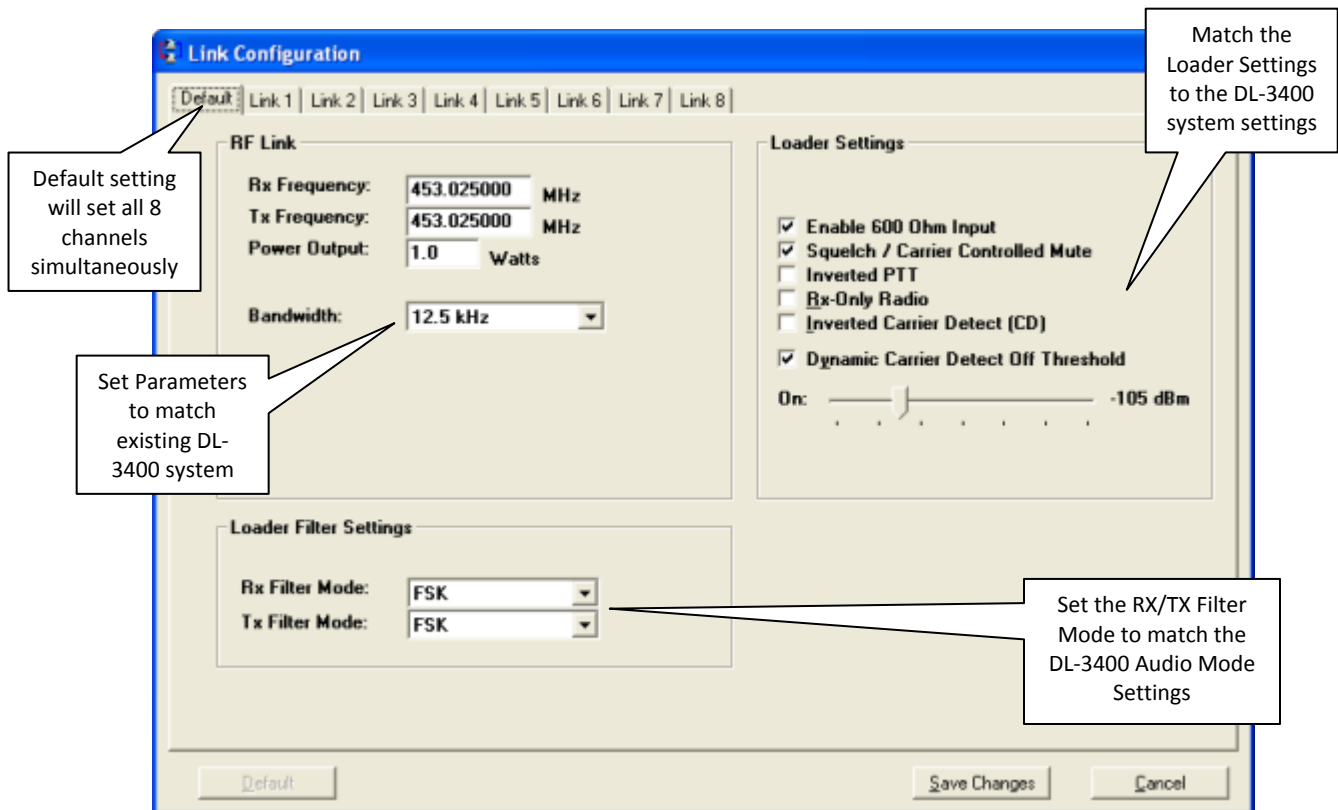

Fig. 6
Click the “Link Configuration” button to advance to the modem settings. This is the screen that sets the RF channel frequencies and Loader settings. See Fig. 6.
Unlike the DL-3400 where all 8 channels were programmed one channel at a time, the Guardian has a “Default” setting that will set all 8 channels simultaneously. (Fig. 6)
- Select the RX and TX Filter Mode to match the DL-3400 RX/TX Audio Mode (Fig. 6)
Refer to the parameters gathered from the DL-3400 programming to set the “Loader Settings”. Set Squelch, PTT Polarity, RX/TX audio impedance to match the DL-3400 system settings. (Fig. 6)
Dynamic Carrier Detect acts the same as in the T-96SR. The Carrier Sense level is set by selecting the “On” level. This is the RSSI (Receive Signal Strength Indication) or signal strength required to open the squelch setting in the receiver. The Carrier Sense “Off” level is set automatically to 5 dBm below the “On” level. (Fig. 6)